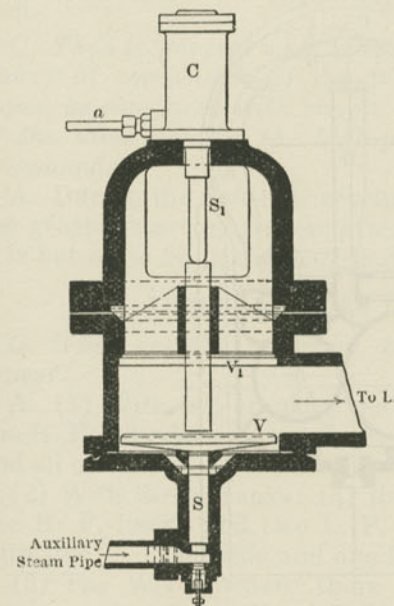

Fig. 326.
*A.* This has an automatic starting valve (such as is seen in Figs. 326, 327) where the receiver pipe joins the L. P. cylinder. When the engine requires to be started with help from the driver (say when with the H. P. piston on a center) live steam passes through the auxiliary steam pipe and acting on the lower end of the spindle *S*